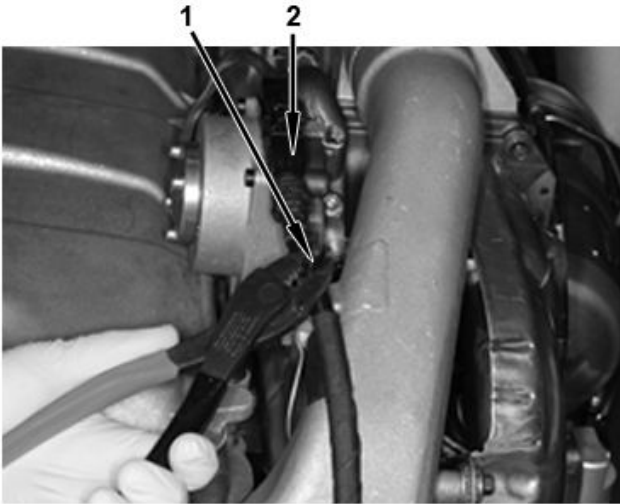

Figure 3. EGR Valve Electrical Connector.
5. Cut and remove wire tie (Figure 3, Item 1) near EGR valve electrical connector (Figure 3, Item 2).